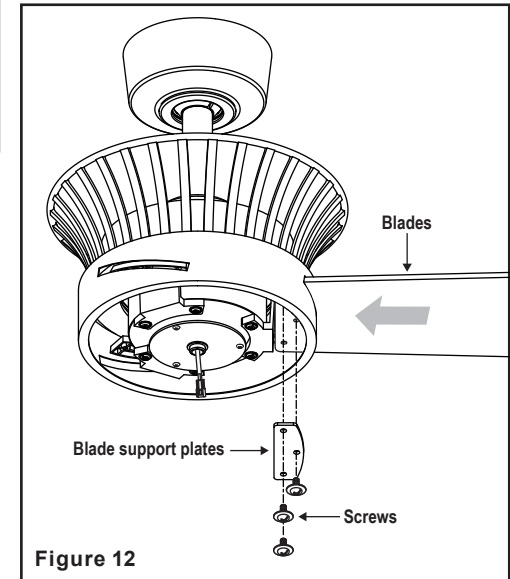

Figure 12
Step 1. Insert the blade through the slot in the housing. Align the holes in the blade and the fan motor assembly and secure with the blade support and blade screw with lock washer. (Fig. 12)
2. Most fan wobbling problems are caused when blade levels are unequal. Check this level by selecting a point on the ceiling above the tip of one of the blades. Measure this distance as shown in Figure 12. Rotate the fan until the next blade is positioned for measurement. Repeat for each blade. The distance deviation should be equal within 1/8".